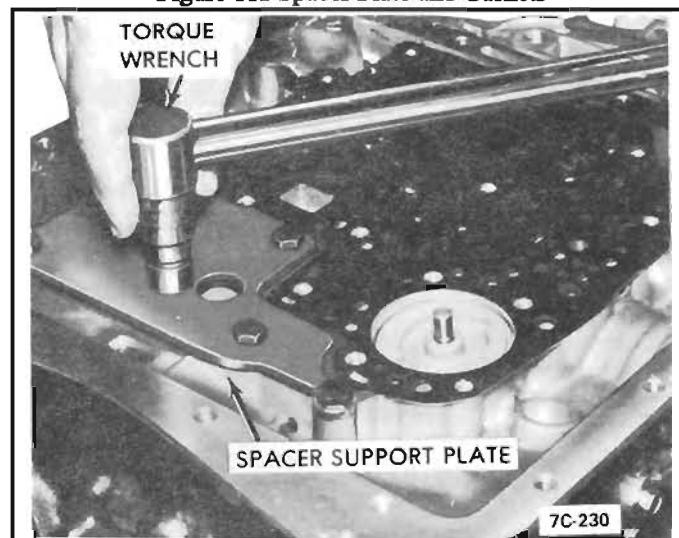

Figure 112 Support Plate
2. Install spacer support plate. Torque bolts to 13 ft. lbs. (18 N*m). See Figure 112.